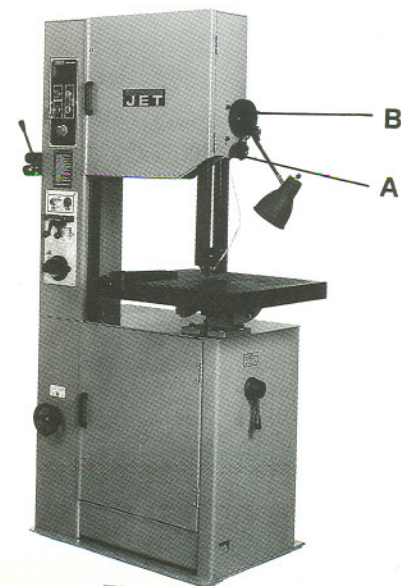

Fig. 9
1. Raise upper blade guide by loosening lock knob (A, Fig. 9) and turning blade guide handwheel (B) clockwise until it stops.
- Loosen lock knob (A, Fig. 9) and turn blade guide handwheel (B, Fig. 9) until blade guide assembly is half way between table and head, then tighten lock knob (A, Fig. 9).